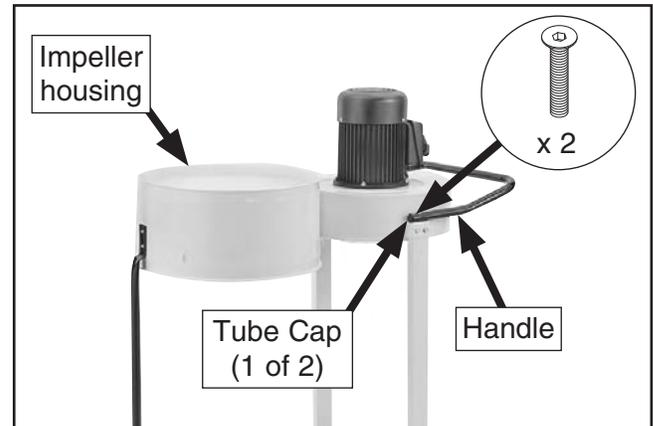

Figure 11. Main housing and handle assembled.
6. Attach impeller housing to support legs using (4) $\frac{5}{16}$ "-18 x $\frac{1}{2}$ " flange bolts (see **Figure 11**).
7. Attach handle to main housing using (2) $\frac{5}{16}$ "-18 x $\frac{1}{4}$ " flat head screws, then install (2) 1" tube caps into ends of handle (see **Figure 11**).